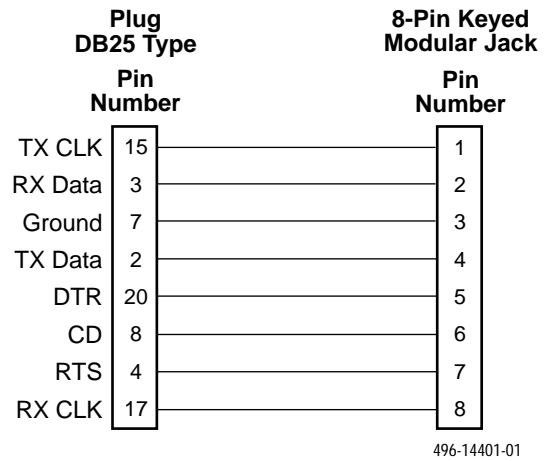

Figure B-5. COM Port-to-PC Adapter
- COM port connector with a plastic body adapter for converting a DB25 interface to an 8-pin modular jack (see Figures B-5 and B-6). This connector is used in conjunction with the COM port adapter cable.